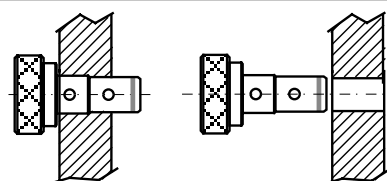

FIG. 2b
- Using the same gauge, check the rail thickness (Fig. 2b):